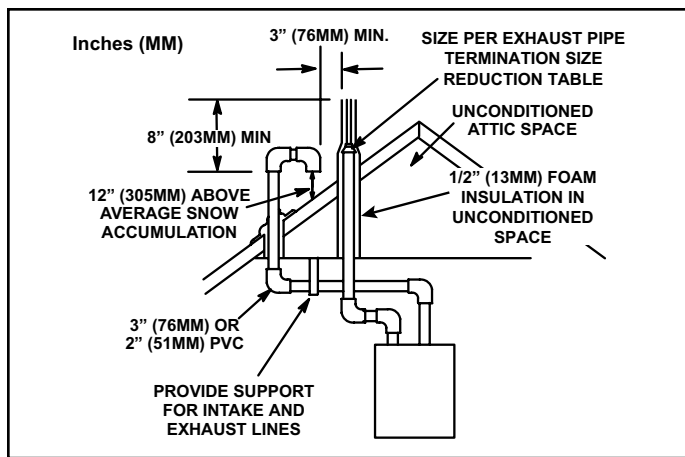

Figure 36. Direct Vent Roof Termination Kit (15F75 or 44J41)
Position termination according to location given in Figure 36 and Figure 35. In addition, position termination so it is free from any obstructions and 12" above the average snow accumulation.
Intake and exhaust pipes may be routed either horizontally through an outside wall or vertically through the roof. In attic or closet installations, vertical termination through the roof is preferred. Figure 36 through Figure 44 show typical terminations.
3. On roof terminations, the intake piping should terminate straight down using two 90° elbows (See Figure 36).